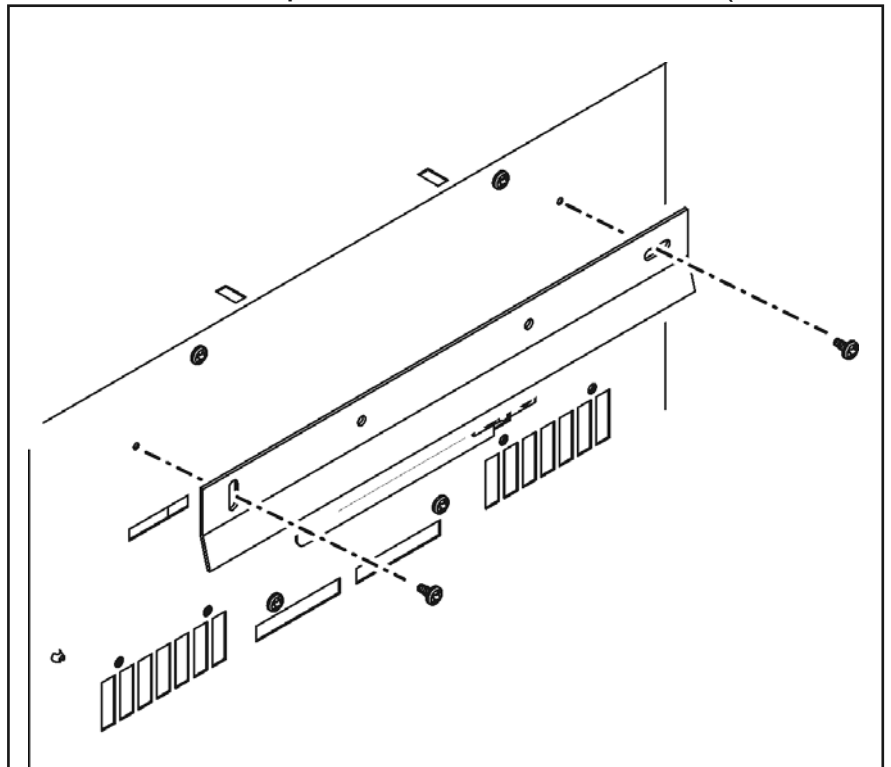

Figure 12
2. The Elevated Installation kit contains two wall mounting brackets and one lower bracket. Secure one of the wall mounting brackets to the rear of the heater using two of the No.8 x 3/8 screws supplied. Ensure that the bracket is correctly orientated before securing (See figure 12).